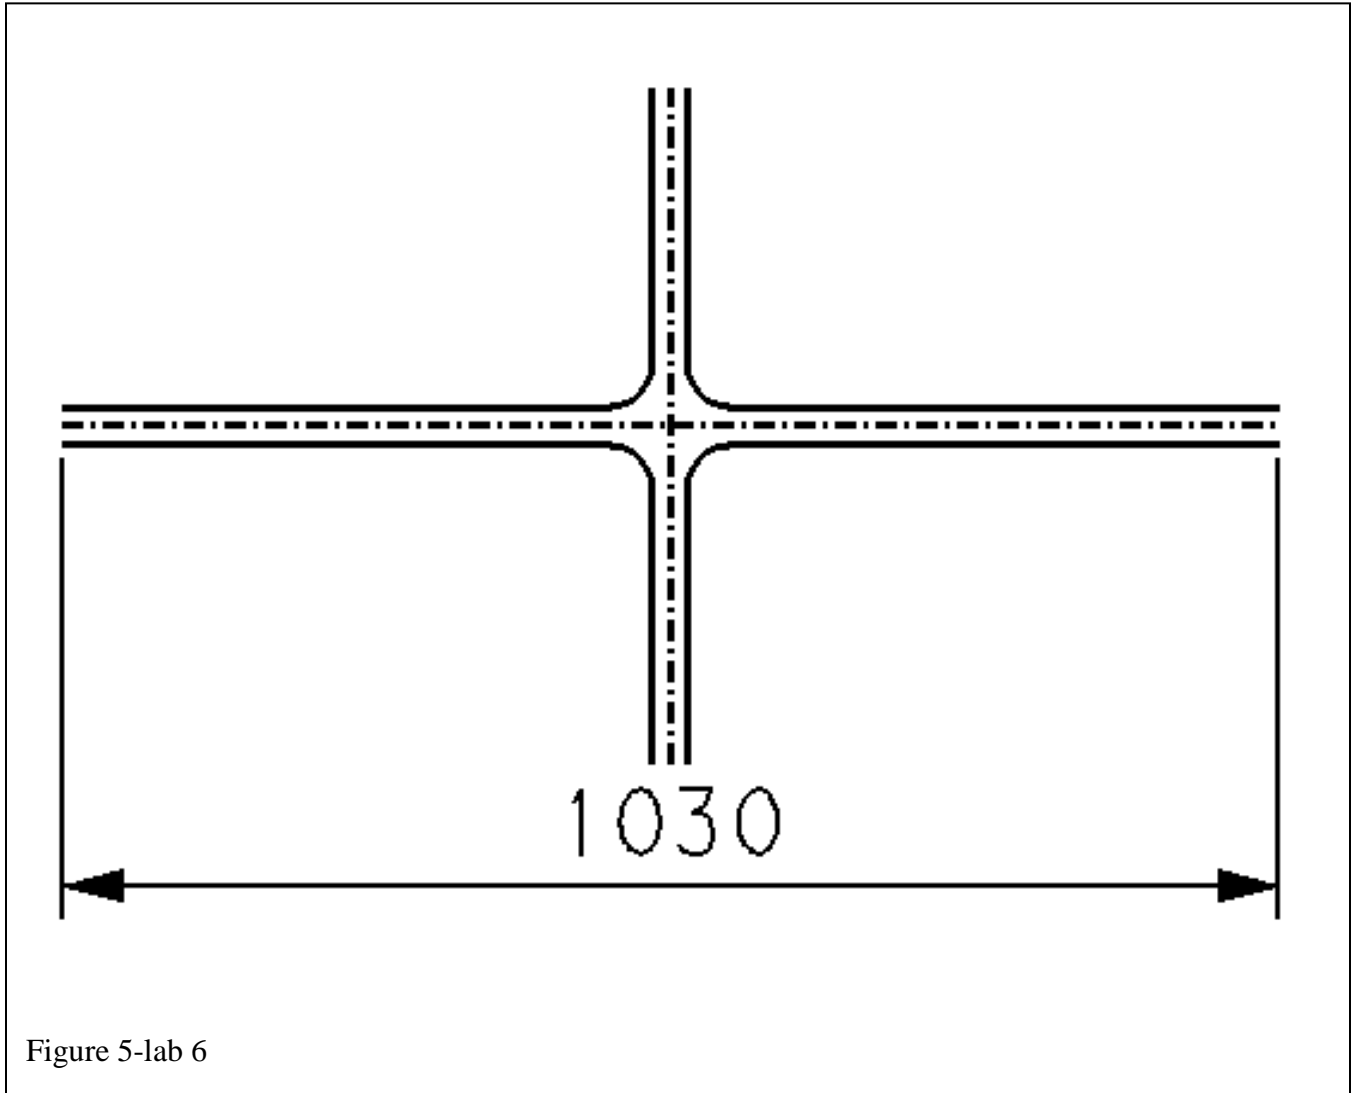

Figure 5-lab 6
8. Use **EXTEND LINE** command with a negative value to decrease length of vertical line only, by 250 feet (See Figure 5-lab 6).